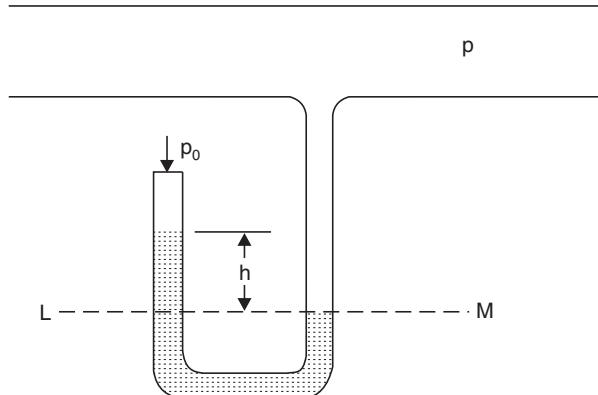

Fig. 1.24
**Example 1.6.** In a pipe line the pressure of gas is measured with a mercury manometer having one limb open to the atmosphere (Fig. 1.24). If the difference in the height of mercury in the two limbs is 550 mm, calculate the gas pressure.